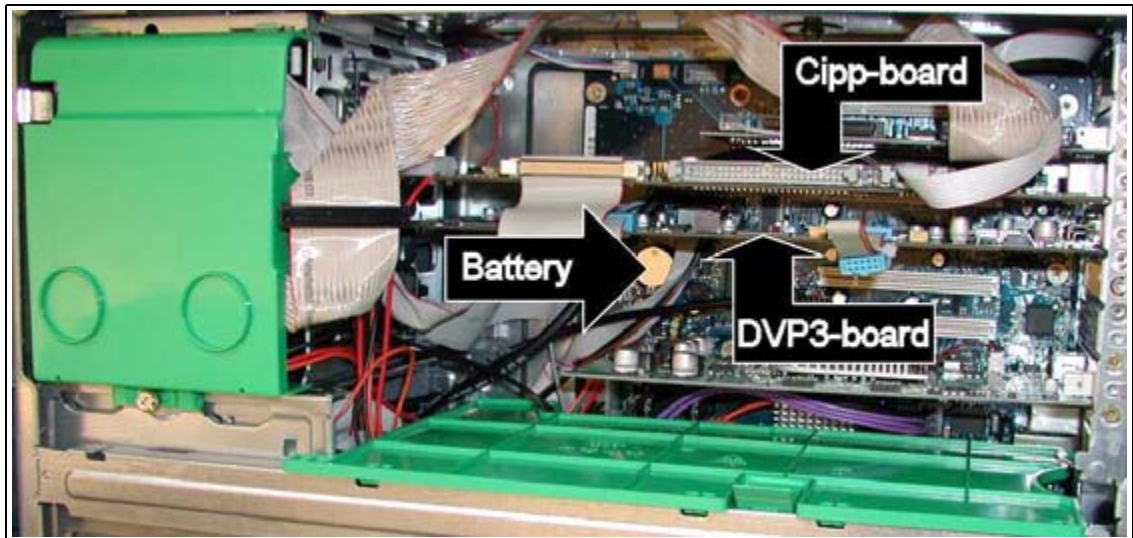
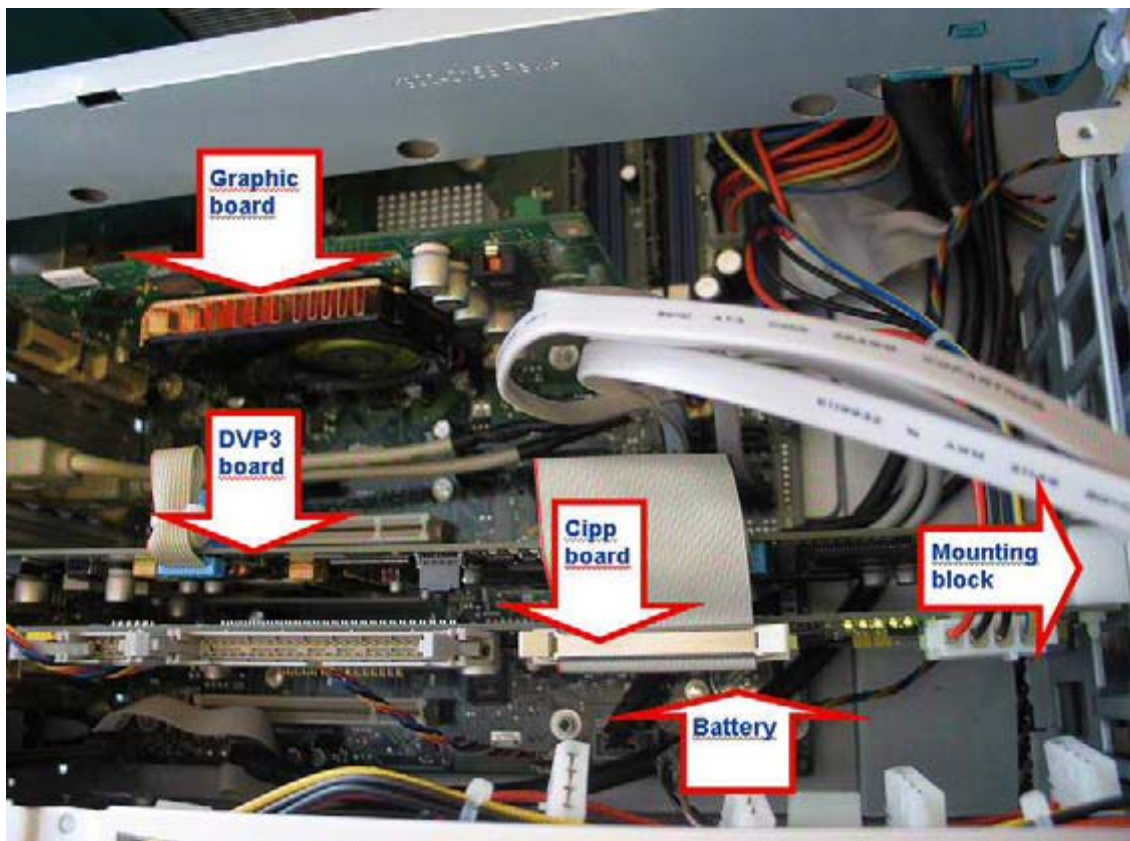

Fig. 44: Replacing the lithium battery_1
Fig. 45: Components M450_
4. Remove the battery M420/ M430 (Fig. 44 / p. 75) or M450 (Fig. 45 / p. 76) and follow the "Disposal Instructions" for disposing of the old battery.
Work steps 1 through 6 are only necessary for a long design of a PCI board (e.g. CIPP board) (see \(Fig. 44 / p. 75\))
3. Replace the DVP3 board (Fig. 44 / p. 75) according to (Replacing a PCI board for PC M420 and M430 \(e. g. CIPP board\) / p. 79).